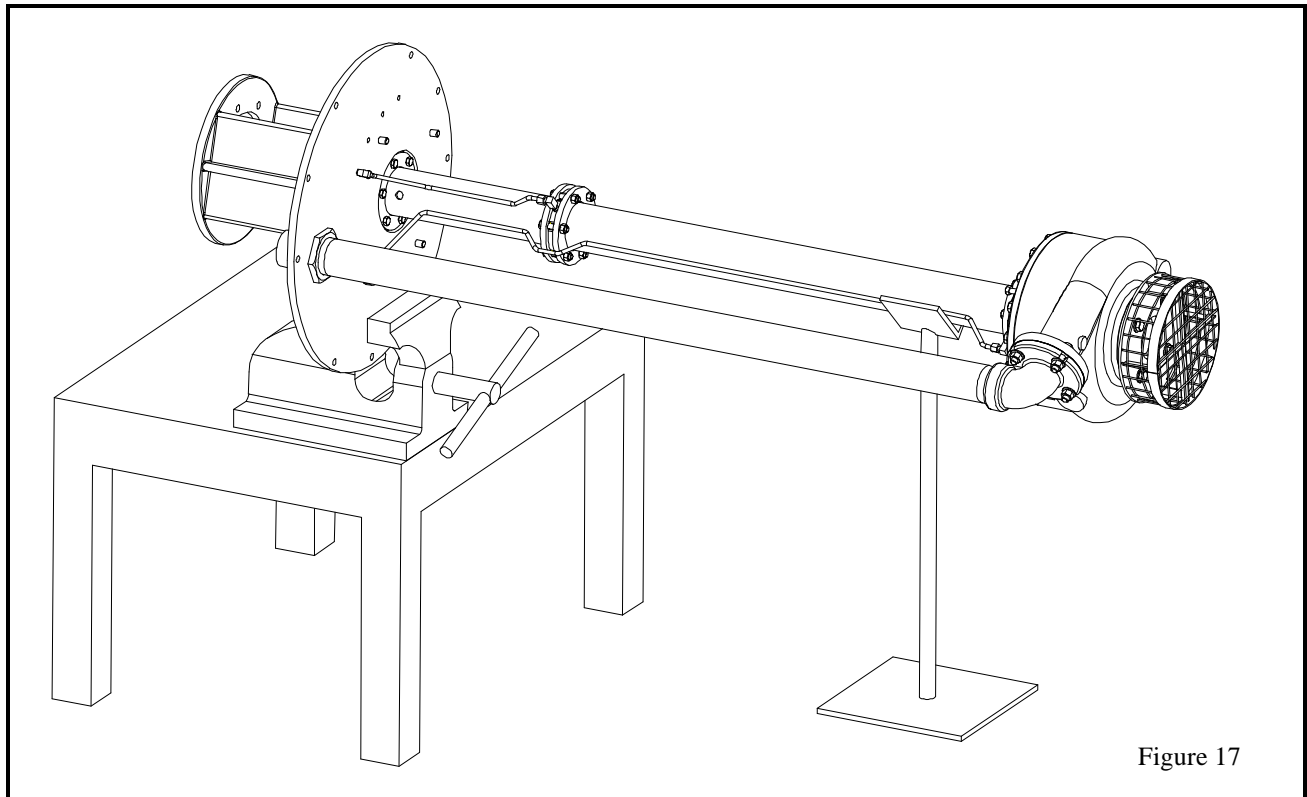

Figure 17
12. Lay the pump horizontally on proper supports where there is sufficient clearance to disassemble the pump (Figure 17).